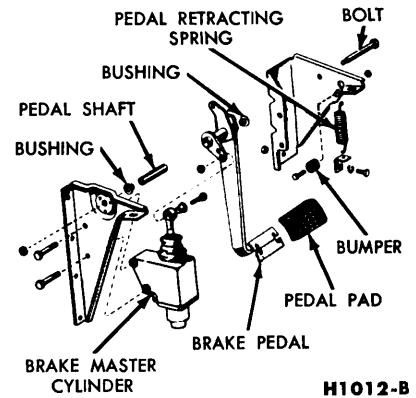

FIG. 15—C-Series Brake Pedal
1. Remove the brake pedal retracting spring (Fig. 15).